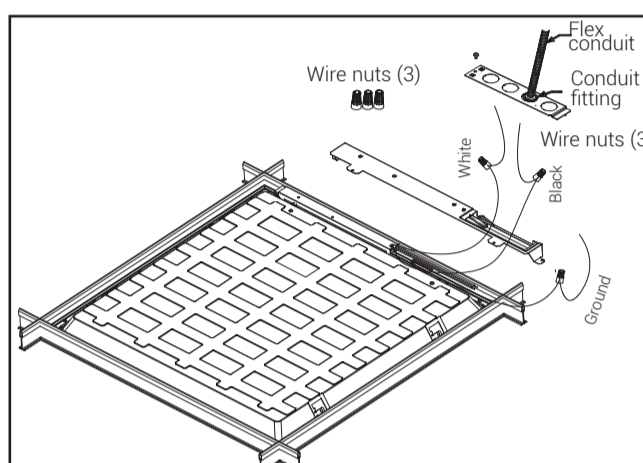

Figure 4.
- Use the three wire nuts to attach the ground wire to the ground supply wire, the black (line) wire to the black supply wire, and the white (neutral) wire to the white supply wire (Fig. 4).